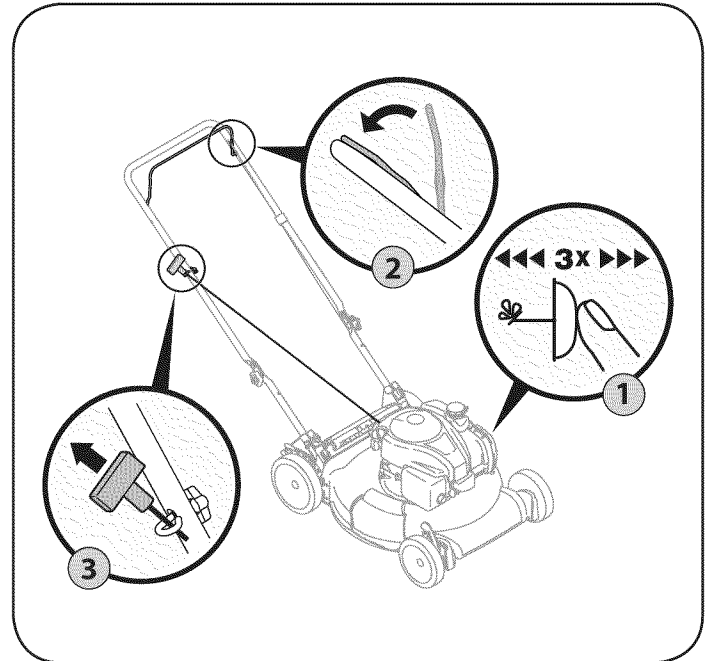

Figure 10
1. Push the primer three times. See Figure 10. Do not prime to restart a warm engine.
3. Holding these two handles together firmly, grasp recoil starter handle and pull rope slowly until resistance is felt, then pull with a rapid, continuous, full arm stroke. See Figure 10. Keeping a firm grip on the starter cord handle, let the rope rewind slowly. Repeat until engine cranks. Let the rope rewind each time slowly.